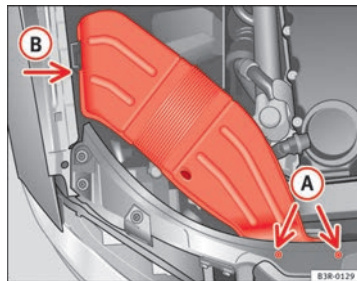

Fig. 204 Air duct on right side of vehicle
- Unscrew bolts (A) ⇒ Fig. 204.
- Detach air duct from guide (B) and take it out.